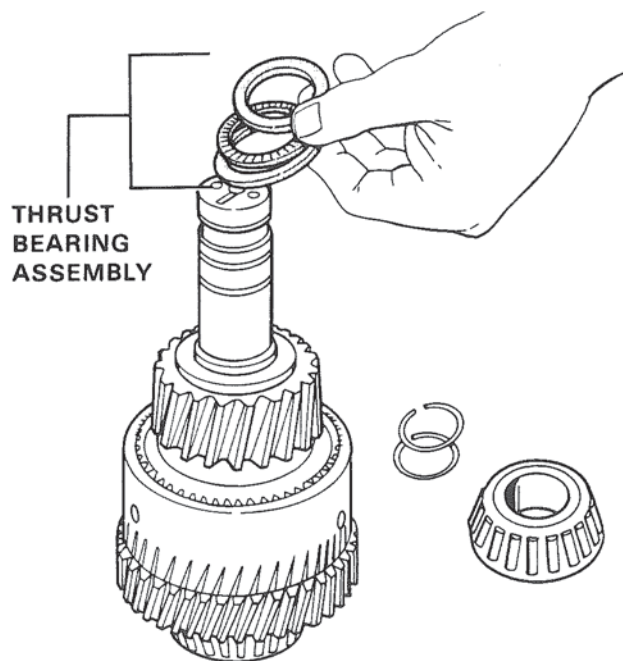

Figure 24. Removing Thrust Bearing Assembly.
2. Thrust Bearing Assembly. Remove the thrust washer, needle thrust roller bearing and thrust washer from the clutch shaft. Figure 24.